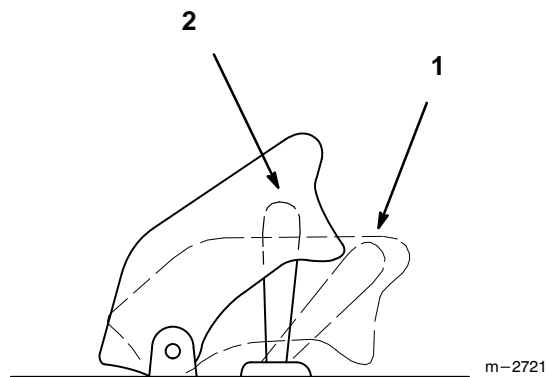

Figure 14
4. To engage lift cover and move the PTO switch to the "ON" position (Fig. 14).
1. Closing the cover moves the PTO switch to the "OFF" position (Fig. 14).